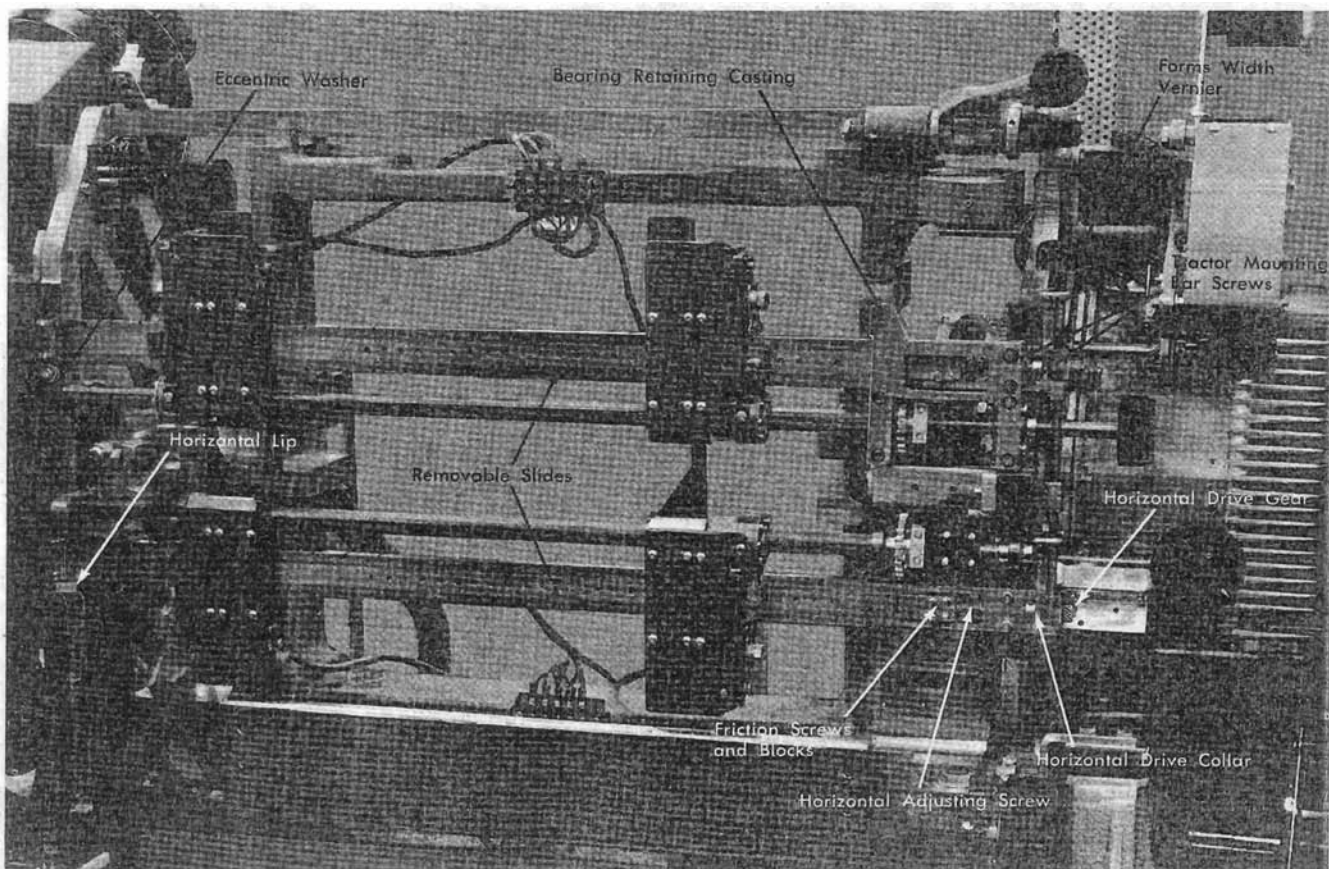

Figure 8. Tractors (T-Casting Removed)
- b. Shift the tractor mounting bars to align the pin feeds within .005". There are two screws in each end of each bar (Figure 8).
Remove the bearing retaining castings. See Figure 8.